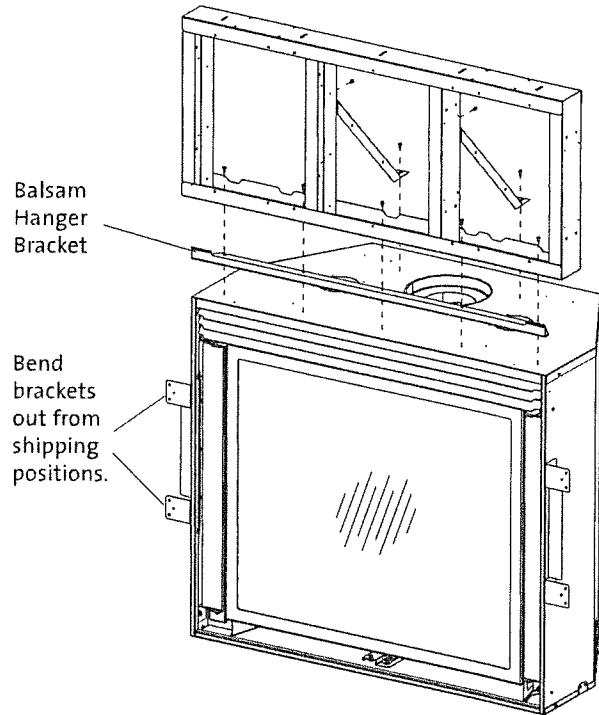

Figure 4.3
3. **BALSAM FRONT ONLY:** Stand the Stand-off assembly upright to attach the Support Brackets to the rear of the two center framing members using the sheet metal screws previously removed. Orient the brackets with the slotted ends to be attached to the top of the cabinet. Fig. 4-3.